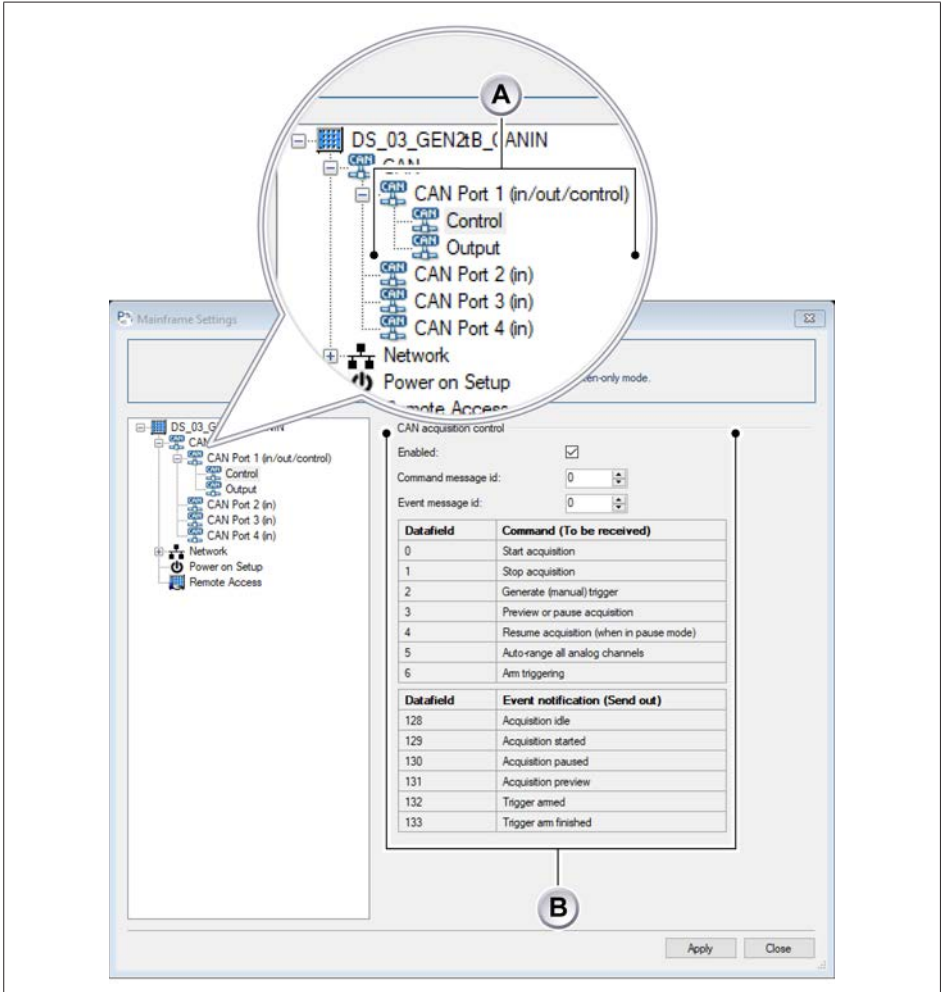

*Fig. 12.25 CAN data in Perception*
4. In Perception, CAN data is visualized as shown in Fig. 12.25.